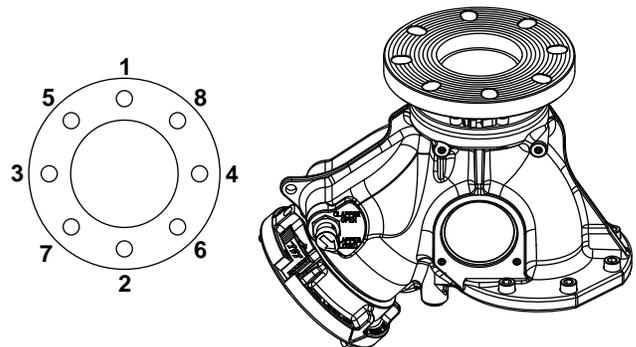

Figure 4.3.2: 4" ANSI 150 Monitor Installation
Refer to figure 4.3.2.
3. For 4" ANSI 150 flanges with 5/8-11 bolts or studs, tighten to 76-80 ft-lb (100-110 Newton-Meters) torque in the alternating sequence shown in figure 4.3.2. Tighten at graduated intervals of 30%, then 60%, and finally 100% of the specified torque.